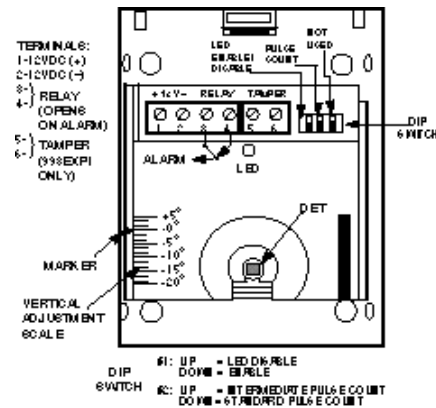

Figure 5. Wiring Connections
4. Mount the base. **Note the mounting orientation of this detector - wire entry at the top, lens at the bottom!** Make sure the board is positioned so that the arrow is in line with the appropriate setting on the graduated scale (see Figure 5 and Table 1).
Note the mounting orientation of this detector - wire entry at the top, lens at the bottom! Make sure the board is positioned so that the arrow is in line with the appropriate setting on the graduated scale (see Figure 5 and Table 1).
The protection pattern can be raised or lowered by repositioning the PC board in the detector. A graduated scale to the left of the board (see Figure 5) indicates the approximate number of degrees by which the pattern can be raised (max. +5°) or lowered (max. -20°). To make this adjustment, slide the board upward or downward by the number of degrees required. After any adjustment, conduct a Walk-Test to ensure proper coverage of the area to be protected (see *TEST PROCEDURES*).
Bring all wires in through the wire access slot at the top of the detector base (near the terminal block) and connect to the screw terminals (see Figure 5 for wiring details). Seal any openings in the base with foam or RTV (not supplied) to prevent drafts or insects from entering the unit. *Apply power only after all connections have been made and are inspected.*
To enable the LED, set the DIP switch #1 **DOWN** (see Figure 5 for switch location). To disable the LED, set DIP switch #1 **UP**. Use a small pointed tool to move the switch handle up or down.
For Intermediate Pulse Count, set the Pulse Count DIP switch #2 **UP** (see Figure 5 for switch location). For Standard Pulse Count, set DIP switch #2 **DOWN**. Use a small pointed tool to move the